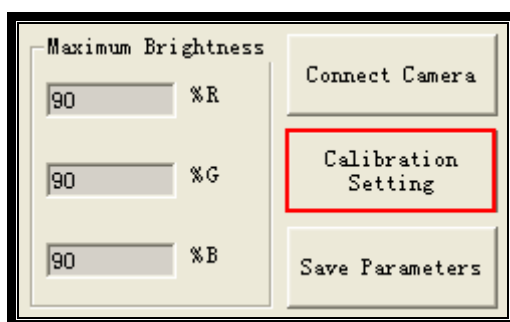

Fig.3-12
Step11: Click the “Calibration Setting” button, as shown in Fig. 3-12, then the window of “Calibration Setting” pops up.